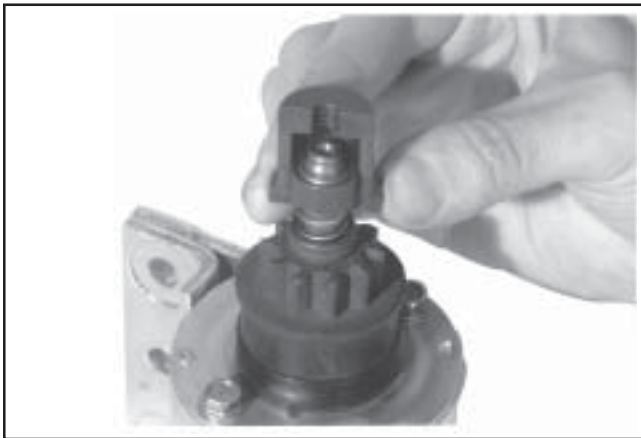

Figure 8-38. Assembling Larger Inner Half Around Spring Retainer.
5. Assemble the inner halves with the larger cavity around the spring retainer. See Figure 8-38. Slide the collar over them and thread the center screw in until resistance is felt.